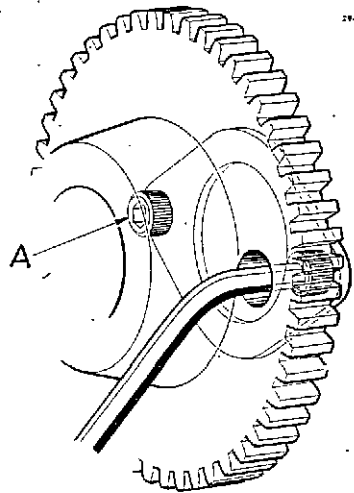

Fig. 8
- (e) Before completing the assembly, check the end float (Y) and if excessive fit new thrust washers (see Technical Data).
40. To remove camshaft (Fig. 8)
- (d) Remove the screws (A) retaining the camshaft thrust plate. The screws are accessible through holes in the gearwheel.